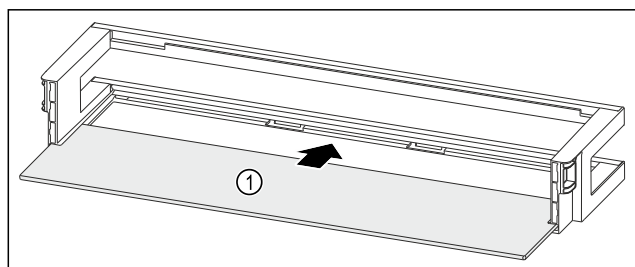

Fig. 161 Door rack with shelf
- ▶ Push the shelf Fig. 161 (1) into the side recesses.